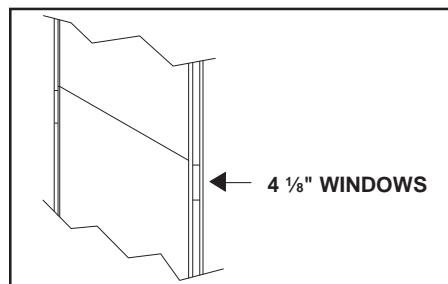

Fig. 3
4. When installing the handle on an enclosed unit, a 4 1/8" long window must be cut in the post filler strips. See Fig. 3. It is recommended to score the strips horizontally then cut vertically between the scores for both windows. Break out each section